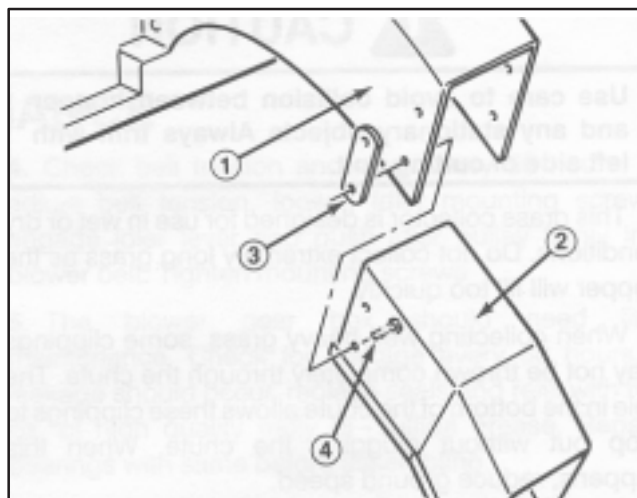

Figure 9
8. Install chute extension provided with kit. Attach chute extension to grass catcher hood with (2) nut plates, (4) button head screws, using existing mounting holes (Fig. 9)
2. Slide chute over blower opening and onto mounting studs (Fig. 9).